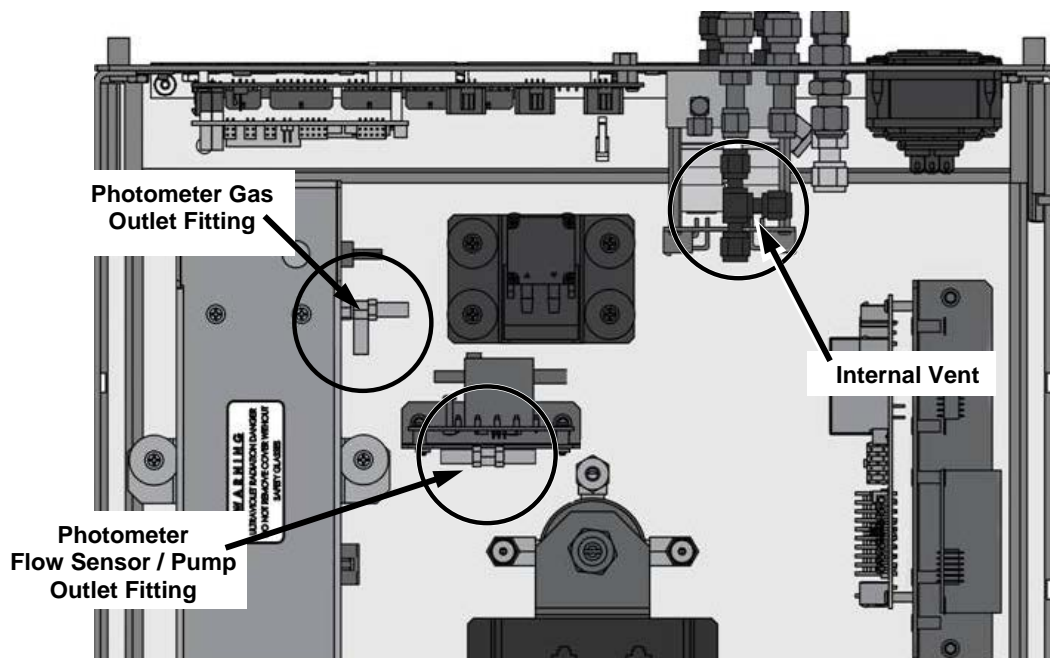

Figure 8-1: Bypassing the Photometer Sensor PCA and Pump
- Using a #6 nut driver, remove the hexagonal nut located at the top of the gas outlet of the photometer (see Figure 8-1).
- Using a #6 nut driver, remove the hexagonal nut located on the fitting on the back side of the Flow/Pressure sensor board (see Figure 8-1).
3. Using the 1/8" cap, securely cover the outlet of the internal vent located just behind the valve relay PCA (see Figure 8-1).